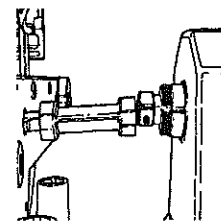
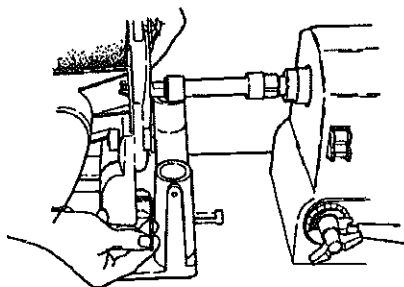
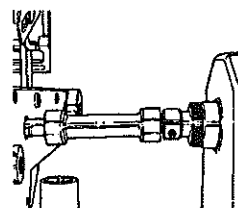
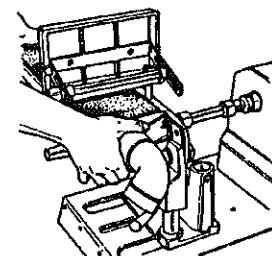

Fig.F-9
Fig.F-12
Fig.F-11
Fig.F-10
11. Fig.F-9 shows typical vertical misalignment. After you have horizontally aligned the Belt Sander to the drive shaft hub (31), lift the Belt Sander, as in Fig.F-10, until the coupler vertically aligns with the drive shaft hub. When they are vertically aligned, as in Fig.F-11, tighten the Belt Sander tube setscrews. See Fig.F-12. Recheck the vertical alignment. If it is off, re-do it.